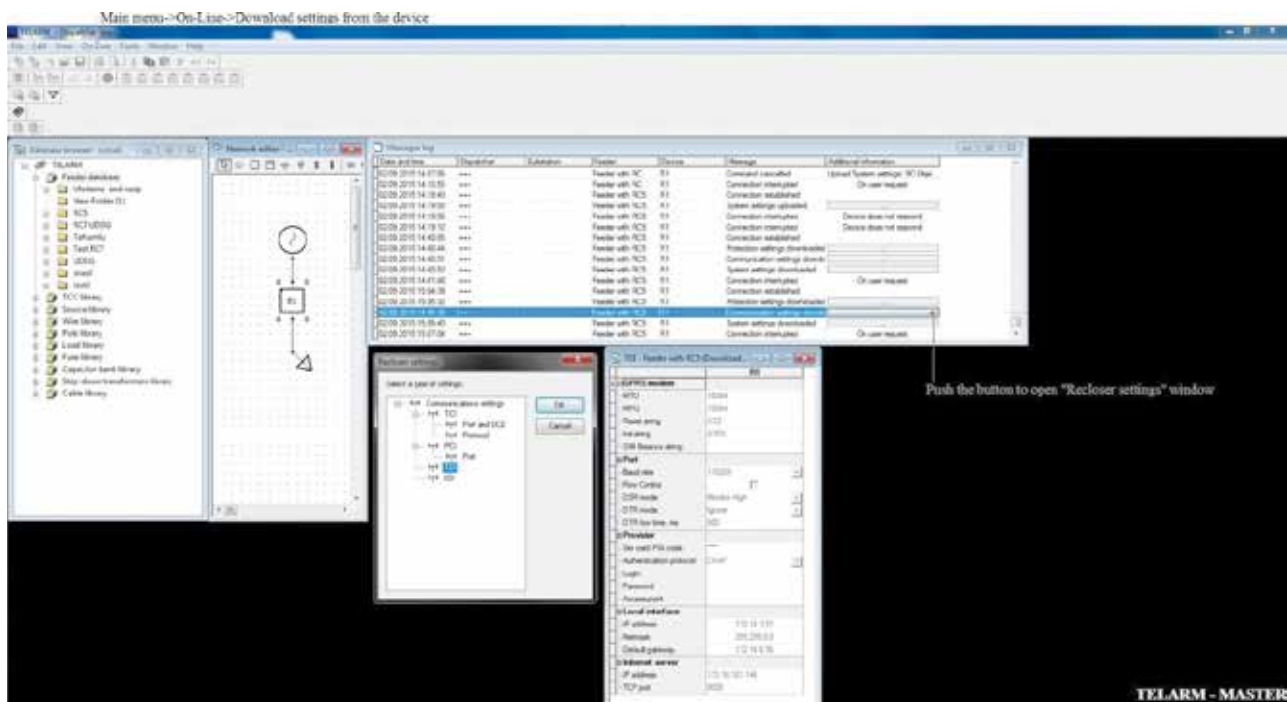

Figure 45
- In "Messages log" if downloaded via the TDI (see Figure 45).
- in "Messages log" if downloaded via TDI (see Figure 45);